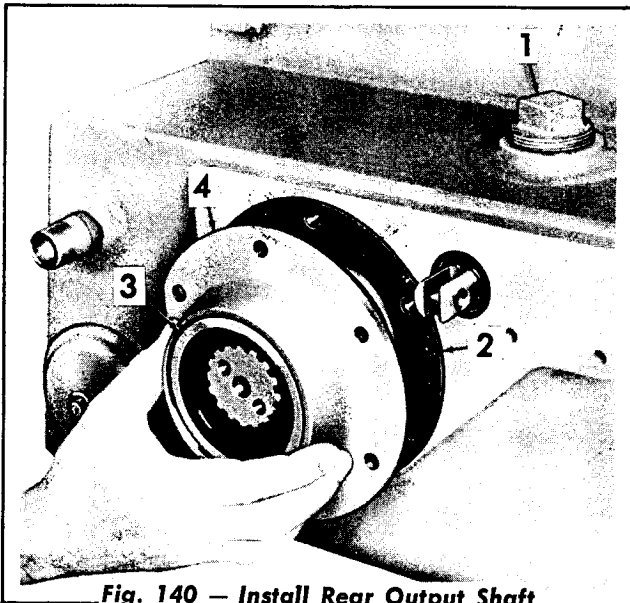

Fig. 140 — Install Rear Output Shaft Bearing Retainer
11. Install the pipe plug (Fig. 140) and the gasket. Install the seal into the rear of the bearing retainer. Install the retainer.